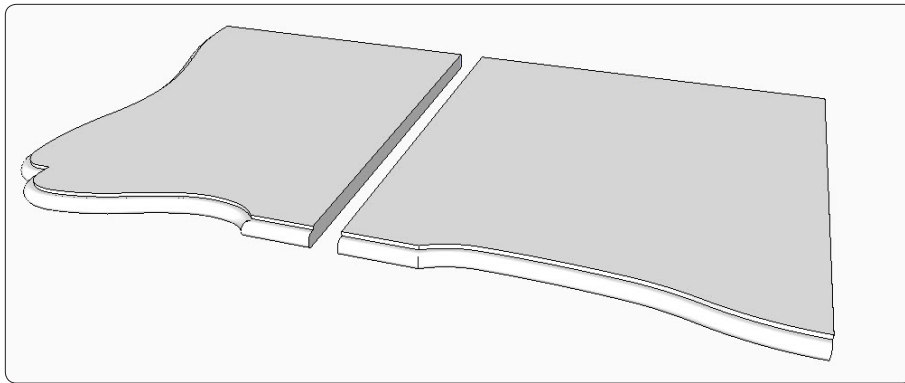

Figure 39. Begin designing the rule joint on edges that will be the center of the tabletop and leaf.
Step 1 Begin with segments of the top and leaf components. Because the tabletop is symmetrical, you need only half of each component. This allows you to create the rule joint on the flat edge that will become the centerline of the top (Figure 39). Adding the rule joint will necessarily decrease the length of the top and leaf because they overlap in the joint area. So be sure to give those components extra length at the outset to achieve the desired tabletop size.